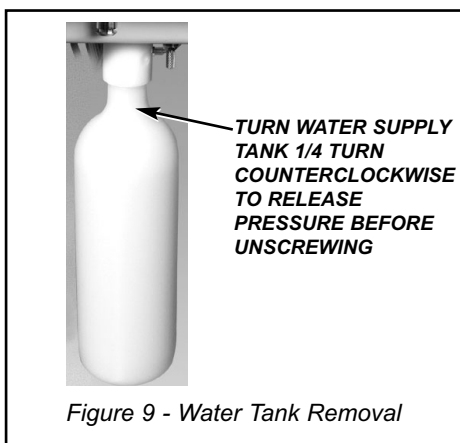

Figure 9 - Water Tank Removal
- 4. WATER SUPPLY TANK** - The Aseptico ADU-20B incorporates a self contained pressurized water system (Fig. 9). This consists of a 2-liter HDPE tank dispensing water through the 3-way syringe and handpiece control. The water tank is pressurized to a constant 35 pounds per square-inch gauge (PSIG) during use.